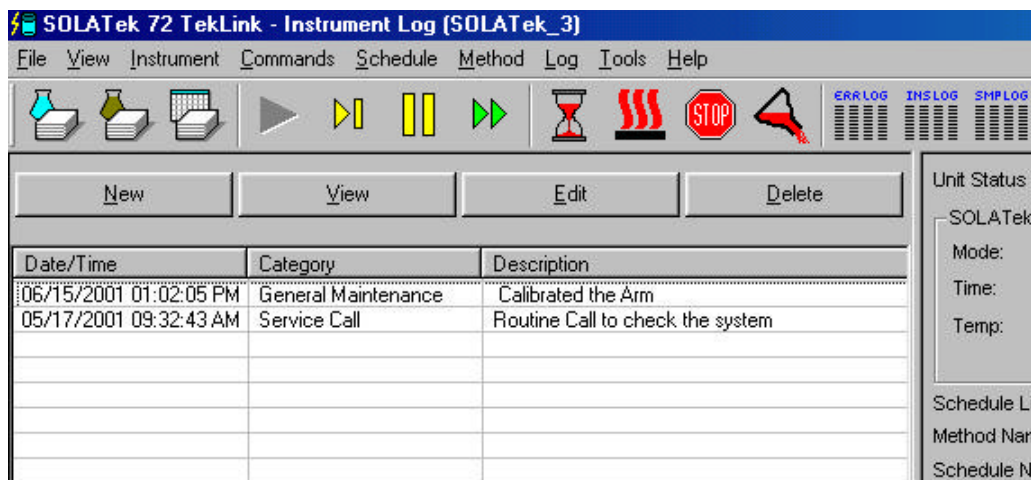

Figure 1-5: Instrument Log
- Make a New entry, Edit an entry, View an Entry, or Delete an entry in the Instrument Log. The Error Log and the Sample Log are generated automatically and cannot be edited, but the user maintains the Instrument Log. When you open the Instrument Log the screen displays the [New], [View], [Edit], and [Delete] buttons (Figure 1-5).